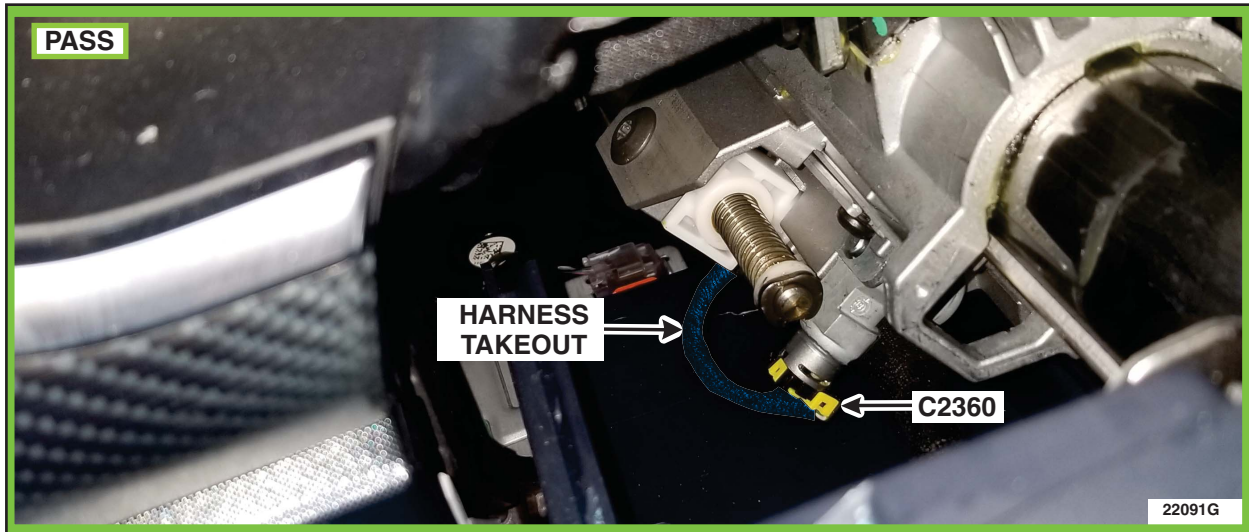

FIGURE 2
3. Lift the gap hider up and inspect the deployable column wiring harness takeout for a tight condition, indicating potential strain on the wires going into the SRS connector C2360, and inspect C2360 for damage. See Figures 2 and 3.